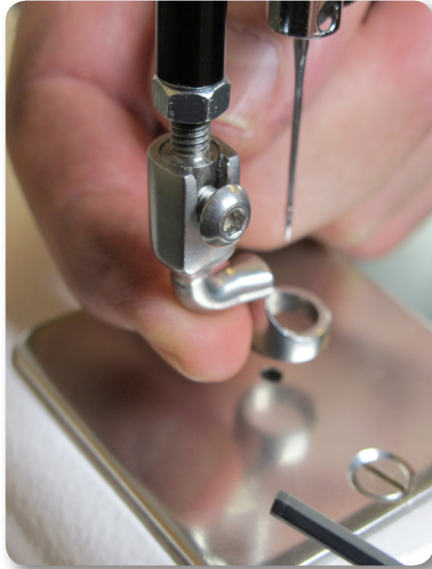

Figure 8
2. Slide the desired foot onto the mount (figure 8). Note that the opening on the side of the foot is lined up with the screw hole. Push the Handi Foot up as far as it will go.